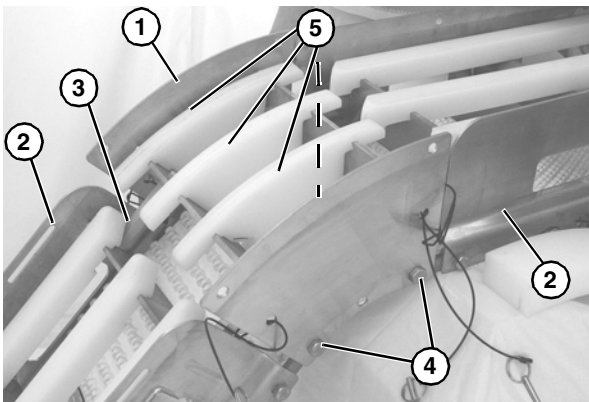

Figure 7
1. Attach upper knuckle (Figure 7, item 1) to frame (Figure 7, item 2) with hex rods (Figure 7, item 3) and bolts (Figure 7, item 4).
2. Install wear strips (Figure 7, item 5).